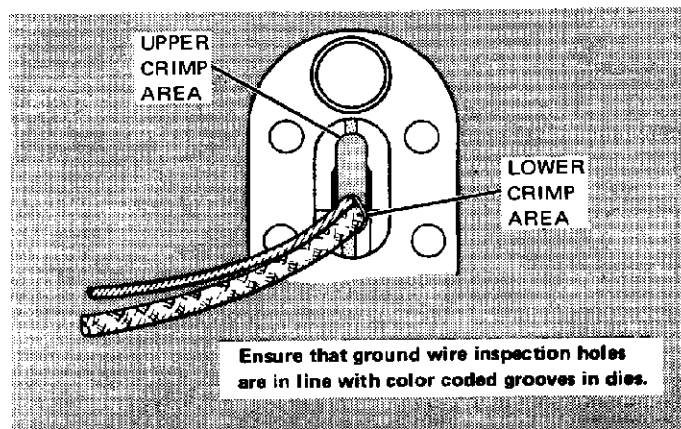

Figure 11
- Place ferrule with shielded wire and ground wire attached in lower crimp area of dies. Push ferrule all the way into tool. See Figure 11.
- Place ferrule, with shielded wire and ground wire attached, in lower crimp area of dies. Push ferrule all the way into tool. See Figure 11.